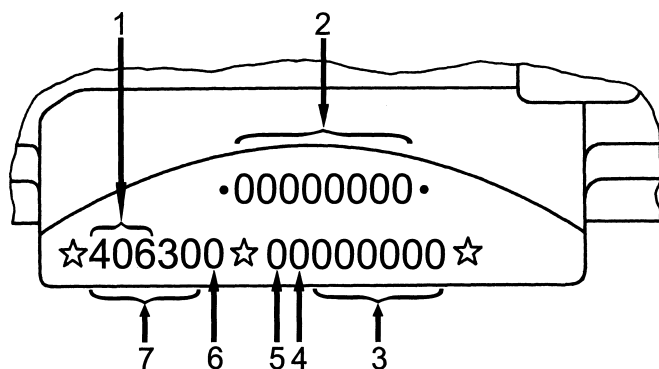

Fig. 2.3 Engine identification number
**ZMZ Engine identification number** is stamped on the cylinder block on the left side (see Fig. 2.3).